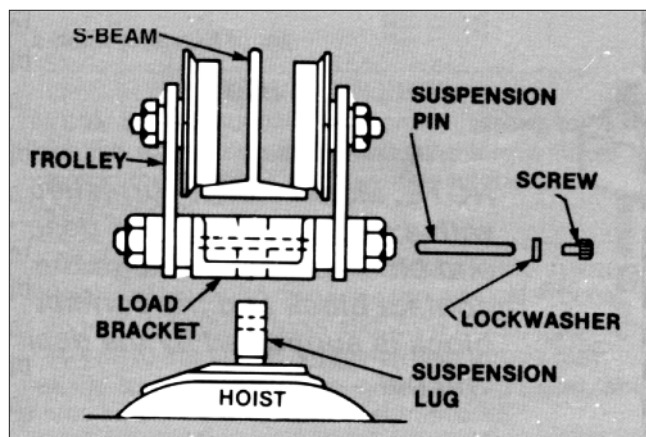

Figure 8. Attaching Hoist to Trolley
5. With the trolley mounted on the beam, attach the hoist by inserting the suspension lug into the trolley load bracket and inserting the suspension pin through the load bracket and suspension lug as shown in Figure 8. Secure the pin using the socket head cap screw and lockwasher.